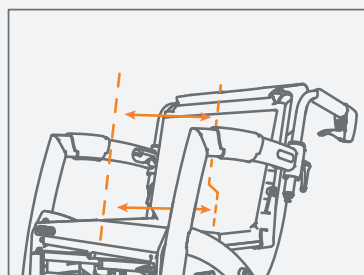

Figure 46: Lower two back straps loosened.
- d. In most cases, the lower straps will be adjusted looser than the upper two straps (**Figure 46**). Attach the Velcro so that the user's pelvis is properly upright, and the backrest supports the back well.